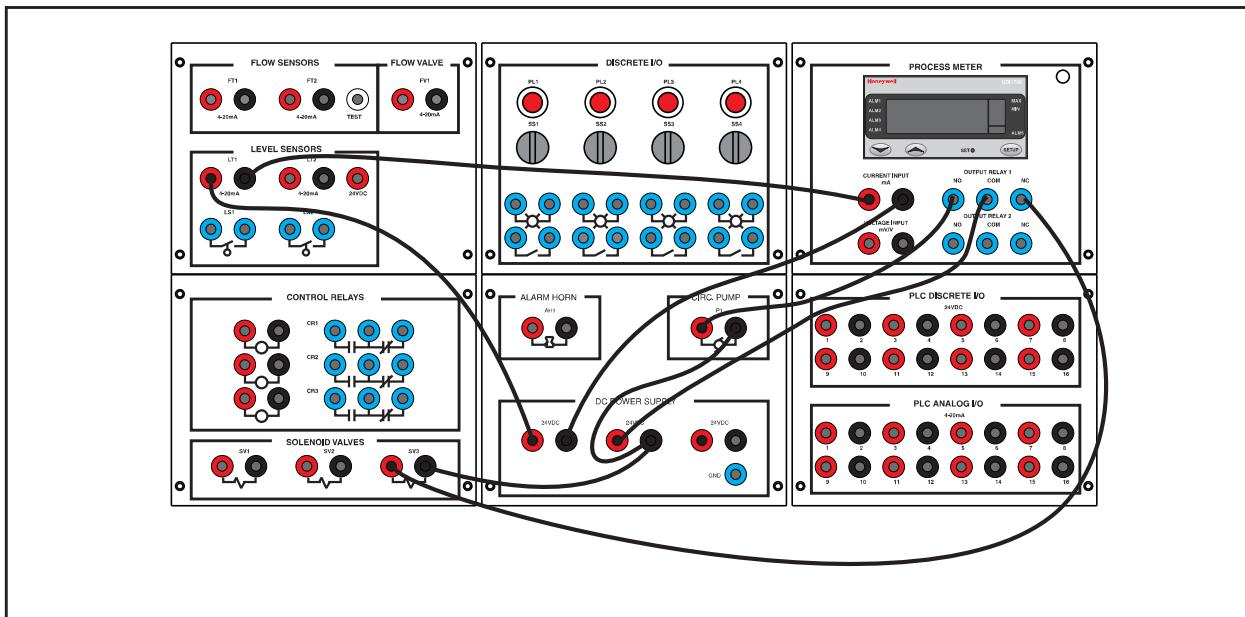

Figure 4-2. Circuit for On/Off Level Control Using a Low Level Alarm
- H. Connect the circuit shown in figure 4-2.